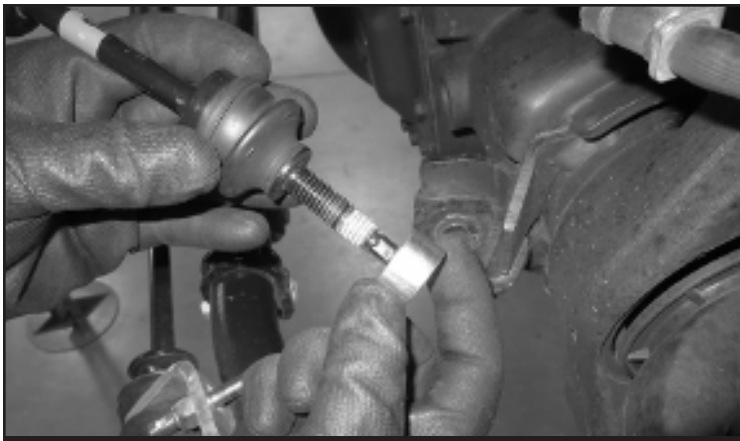

FIGURE 24 - STEP 25
25. Reinstall the factory sway bar end link to the axle mount using the supplied FT30290 (.520 Spacer) and factory hardware. Torque to 38 ft-lbs. **SEE FIGURE 24**